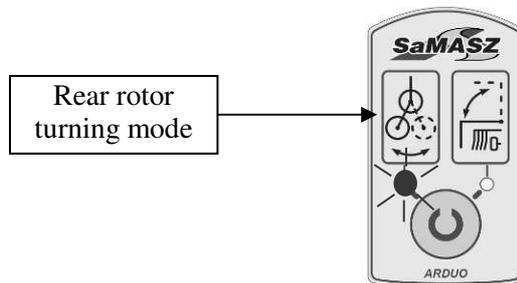

Fig. 10. Controller ARDUO with rake's rear rotor turning mode ON
- ❑ For DUO 740, make sure that the controller ARDUO is set to rear rotor turning mode (**Fig. 10**),